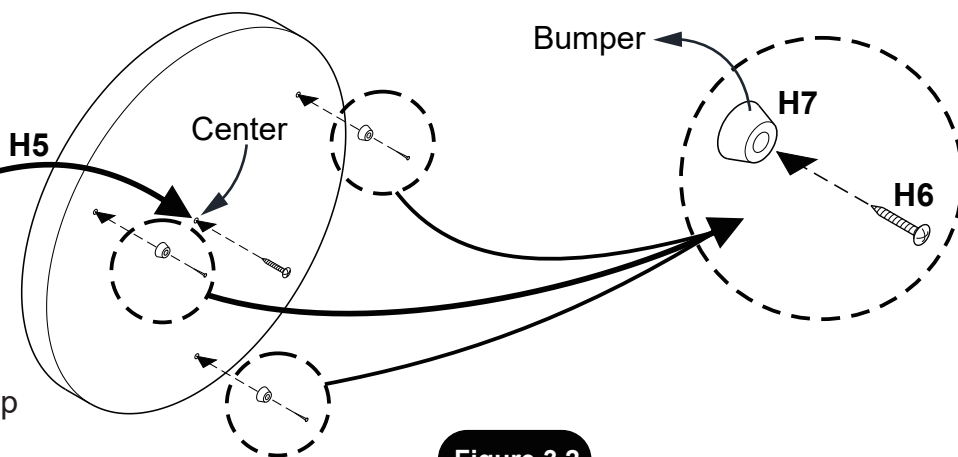

Figure 3.2
2. Install 3 pcs **H7** Bumper to 3 pilot holes onto the back of the dartboard using 3 pcs **H6** Bumper Screw and tighten, do not strip out screws. Please see **Figure 3.2**.